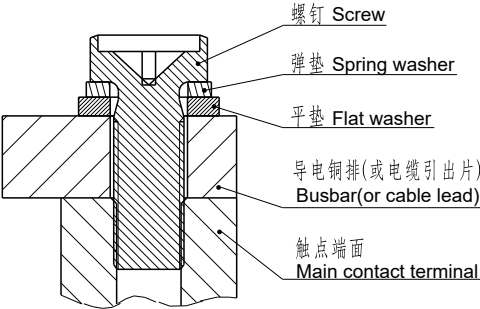

图1(Fig1)
9.当产品使用1个及多个导电铜排连接时，请确保导电铜排与触点端面紧密贴合（多个铜排需确保大电流的导电铜排最贴近触点端面，小电流的导电铜排其次），然后是平垫圈、弹簧垫圈、螺钉。不正确的连接顺序可能造成严重过热，参考下图1：
When the product is connected with one or more conductive copper bars, please ensure that the conductive busbars closely fit the contact terminal surface (The conductive copper bars with high current must be closest to the contact terminal surface if there are multiple copper bars and then conductive busbars with low current), followed by flat washers, spring washers and screws. Incorrect connection sequence perhaps give rise to severe overheating. Refer to Figure 1 as follows: